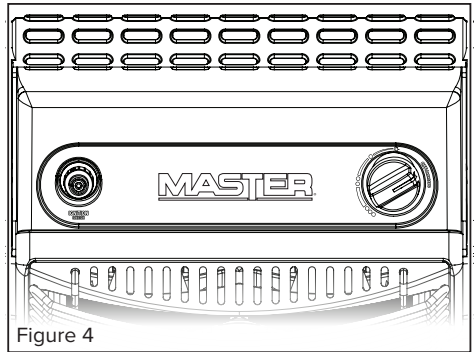

Figure 4
- Turn Control Knob counterclockwise to “PILOT” position and depress knob and hold down; see Figure 4.
- Before attaching propane make sure Control Knob on heater is in "OFF" position; see Figure 4.
Clean the ceramic plaques using compressed air (max. 30 PSI) to prevent damage to plaques. A yellow tip of the pilot flame indicates that the burner area may be in need of cleaning. Inspect and clean the pilot (mounted to bracket) by using a vacuum or apply air pressure through the holes in the pilot Figure 4.